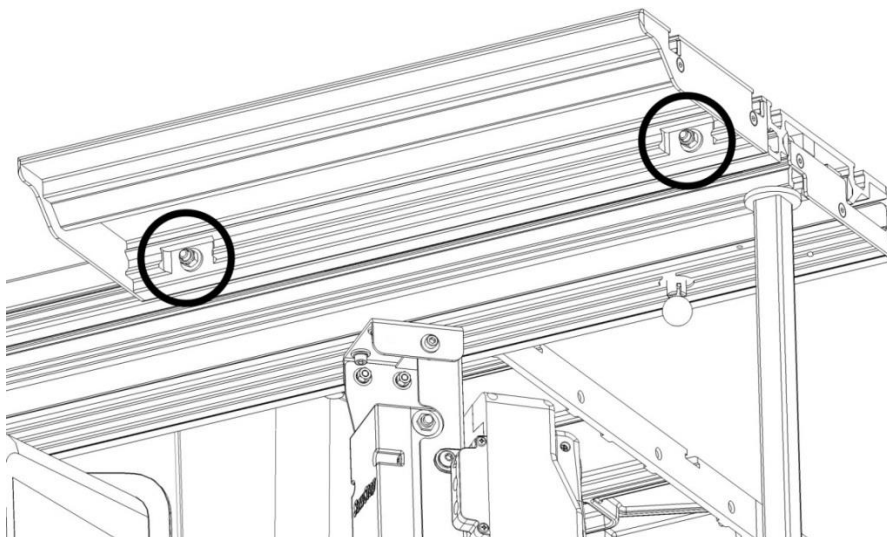

Fig. 10
13. Place the two M8 T-bolts (109) through the holes in the side of the extension table. Loosely install the flat washers (108) and lock nuts (110) on the T-bolts. Slide the heads of the T-bolts (109) into the T-slot on the outside edge of the sliding table, and then tighten the nuts (110) to secure the extension table in place. For most operations, position the extension table so that it is flush with the front edge of the sliding table top, as shown in **Fig.10**.